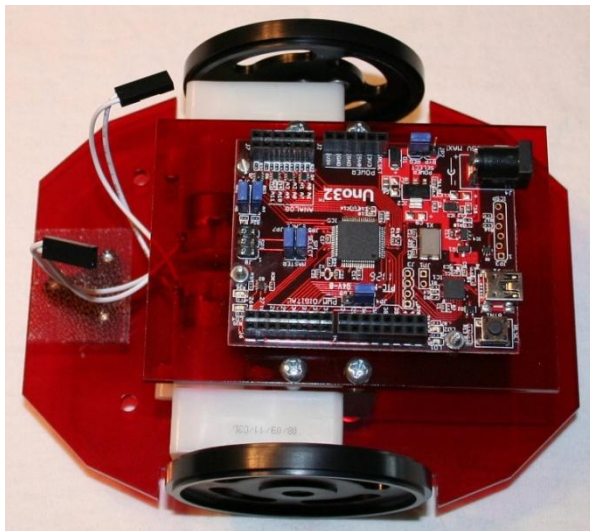

FIG 29. Install UNO32™ Board & Plastic Deck onto Robot.
Refer to figure 29 below for how to install UNO32™ board onto robot. Secure with (4) 6-32x1/2" machine screws.